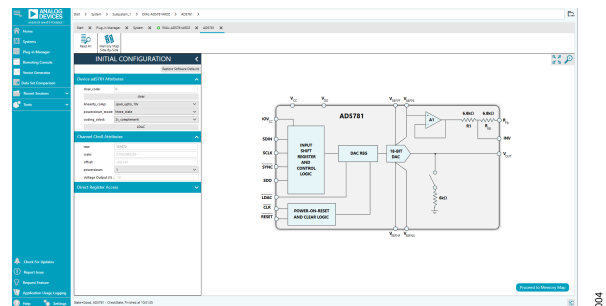

Figure 4. Chip View of the EVAL-AD5781ARDZ
4. Double-click the **AD5781** or the **AD5791** chip to access the chip block diagram shown in **Figure 4**. This view provides a basic representation of the functionality of the board, together with the **INITIAL CONFIGURATION** view. See **Figure 5** and **Table 1** for details on the registers of the board.